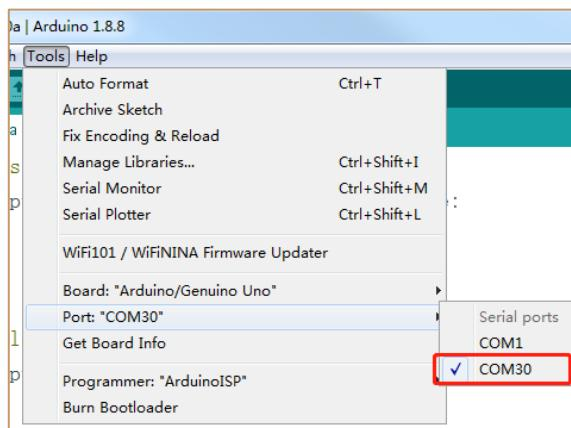

figure 4-8-1
1、Open the Arduino IDE, connect the serial port as shown in Figure 4-8-1, open the serial port monitor as shown in Figure 3-2-8-2